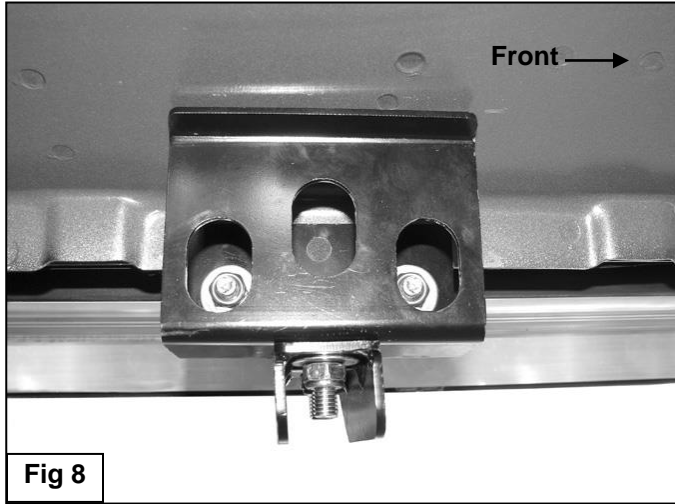

Fig 8
6. **IMPORTANT:** Select a location for the center Bracket along the pinch weld, mid-way between the front and rear Brackets where the seam is as flat as possible, **(Figure 6)**. Do not install the Bracket over any of the drip channels in the pinch weld. Once an appropriate location has been found, slide the outer Clamp Plate and Bracket over the pinch weld with the back part of the Bracket tight against the floor panel, **(Figure 7)**. Tighten the (2) 10mm Lock Nuts to tighten the Clamp on the pinch weld, **(Figure 8)**. Do not fully tighten at this time.